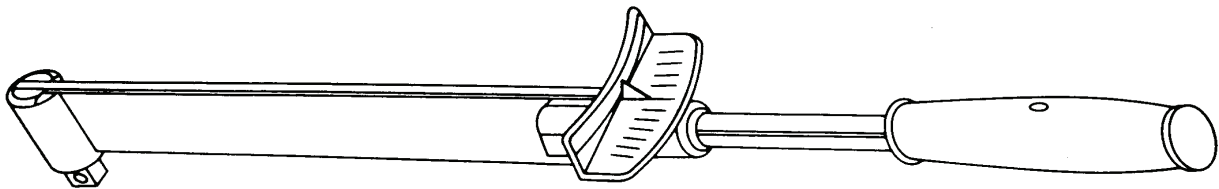

Figure 1. Type I, class 1, style A torque wrench, deflecting beam with indicator plate (direct reading).
(3) Insert TI in applicable torque cell, using adapter as required. Insert in horizontal position for clockwise torque. Perform applicable note below for the TI that you are calibrating.
**Torque Wrench, Direct Reading:** (figures 1, 3, and 5). Gradually apply perpendicular force on handle of TI until indication in (1) above is obtained.